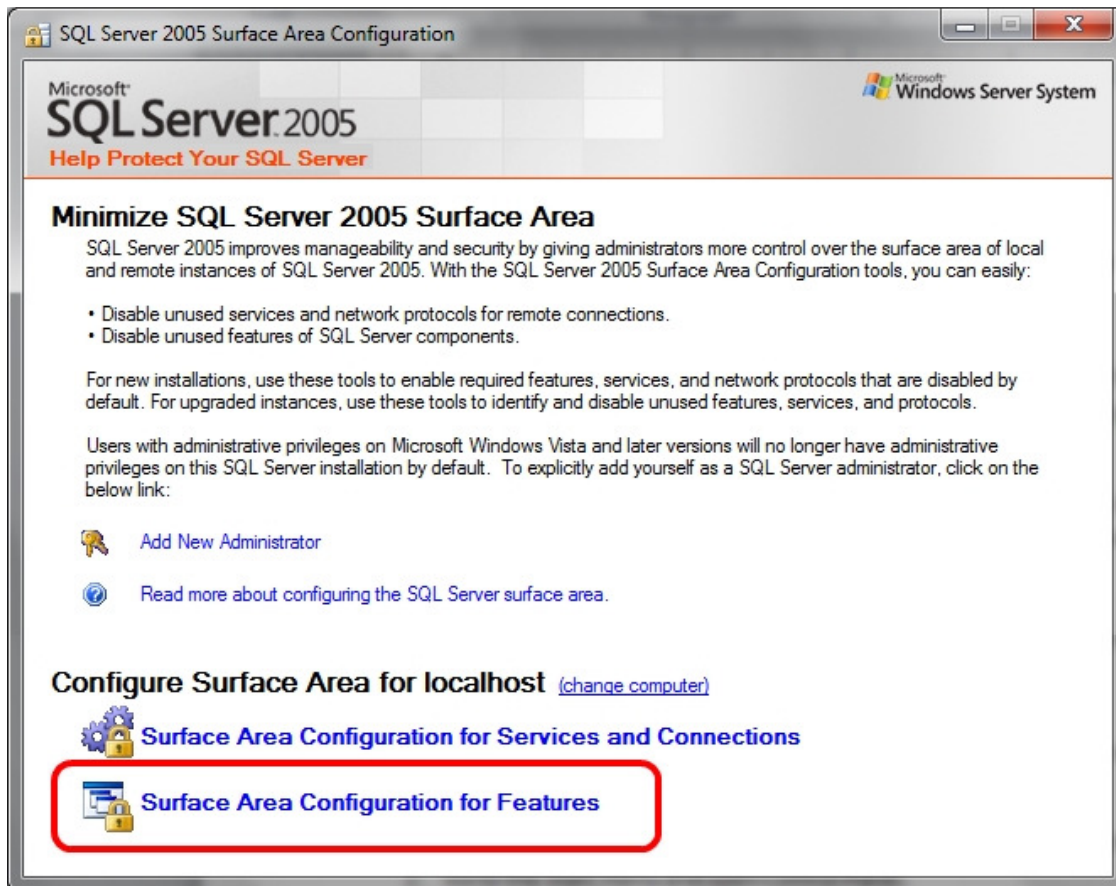

Figure 8
3. From within SQL Server Surface Area Configuration, click on Surface Area Configuration for Services and Connections. Refer to Figure 8.